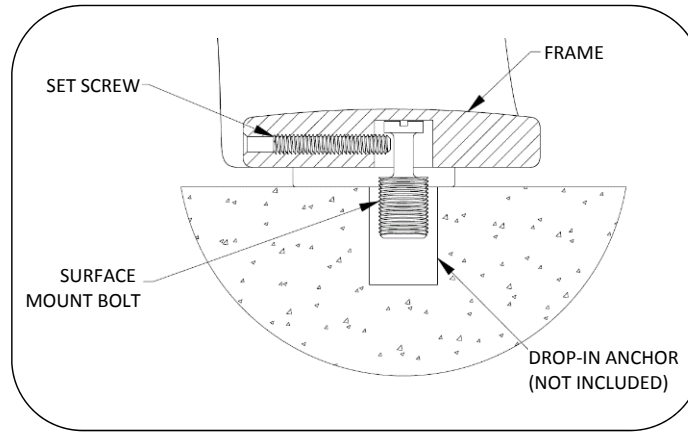

Fig. 2 – Section view of installed surface mount bolt
8. Install set screws to secure, see Fig. 2. Gently lift up on the ends of the bench to verify proper mounting.